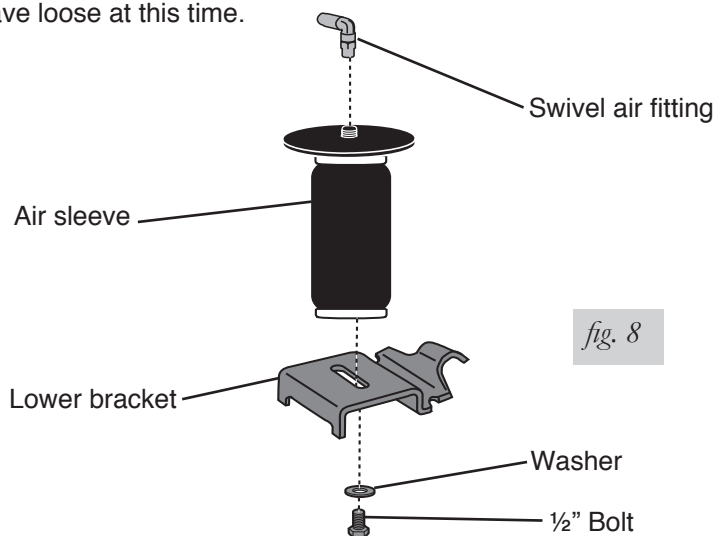

fig. 8
1. Install the swivel air fitting onto the air sleeve finger tight plus one and a half turns (fig. 8). Do not overtighten.
2. Attach the lower bracket to the bottom of the air sleeve with a flat washer and ½" bolt (fig. 8). leave loose at this time.